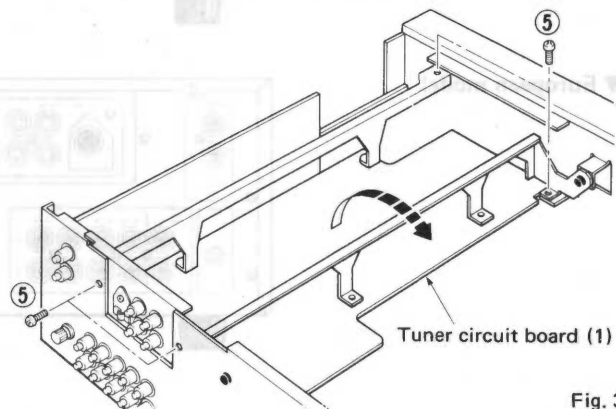

Fig. 3
- ⑤ Check of tuner circuit board (1) & replacement parts
Open the tuner circuit board (1) as shown in Fig. 3.